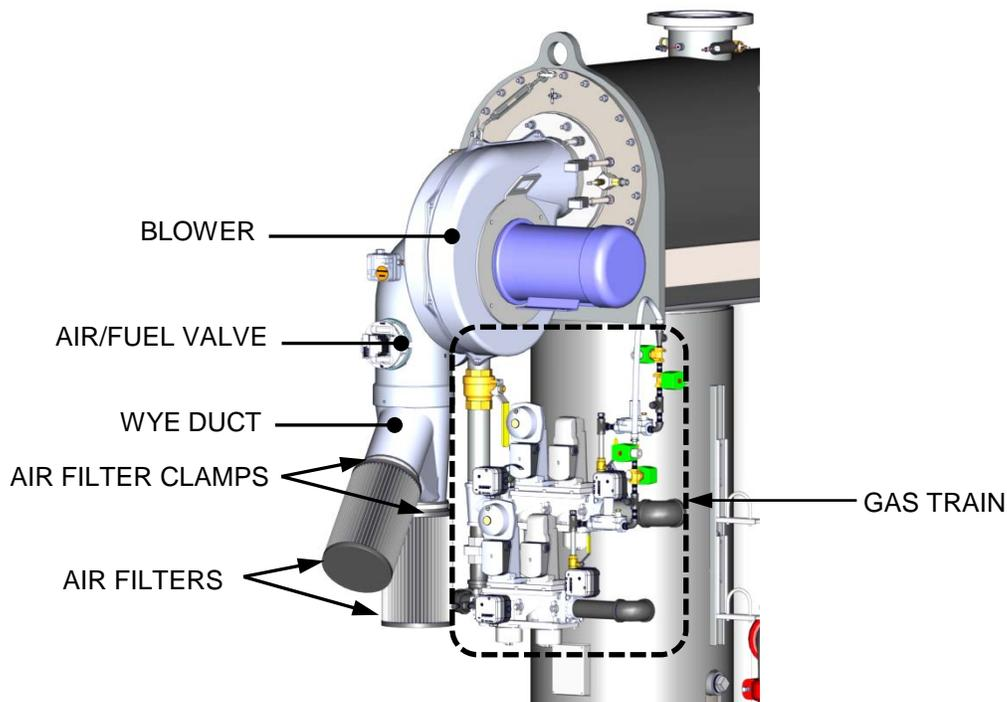

Figure 7-11: Air Filter Location and Removal
The Benchmark boiler is equipped with two (2) air filters (P/N **88014**) which should be cleaned and re-oiled every 12 months, or as needed if combustion air is dirty, and replaced every 24 months. The air filters are attached to a WYE shaped duct connected to the inlet of the air fuel valve as shown in Figure 7-11. To inspect/replace each air filter, proceed as follows:
2. Refer to Figure 7-11 and locate the air filters attached to the WYE duct connected to the air/fuel valve inlet.